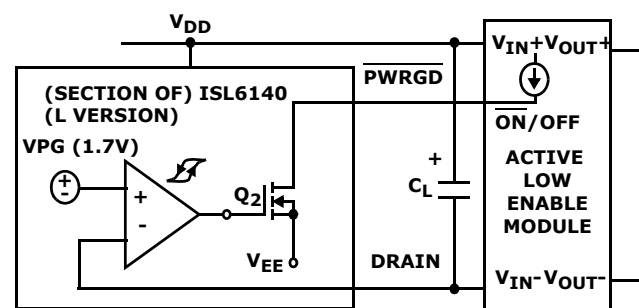

FIGURE 6. ACTIVE LOW ENABLE MODULE
**ISL6140** (L version; Figure 6): Under normal conditions ( $\text{DRAIN} < \text{VPG}$ ), the Q2 DMOS will turn on, pulling  $\overline{\text{PWRGD}}$  low, enabling the module.